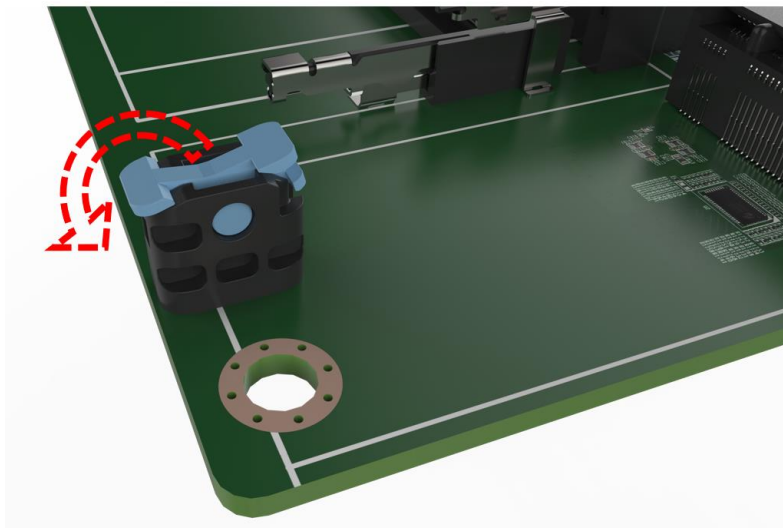

Figure 3-4: Press the end of the M.2 retaining clip
Step 3: Press the end of the M.2 retaining clip. As shown in **Figure 3-4**.